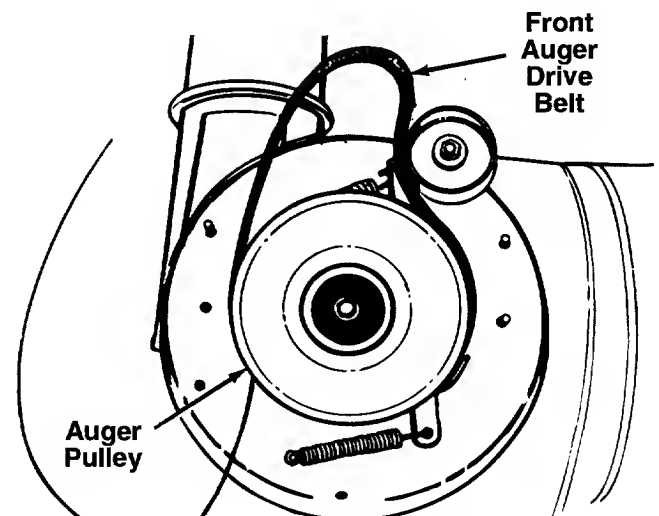

FIGURE 21.
- To remove the front auger drive belt, push the idler pulley to the left, and lift front auger drive belt from the front auger pulley. See figure 21. Replace both auger drive belts by following instructions in reverse order.